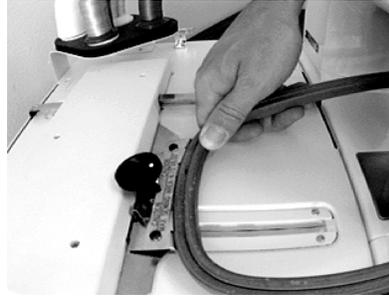

Figure 3-2
2. Lower the hoop, with the mounting plate centered over the two guide pins, as shown in Figure 3-2.